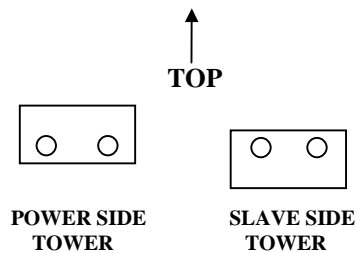

Figure 6 – Carriage Stops
4. Re-install carriage stops and tower brace using four (4) hex head bolts, flat washers, lock washers, and hex nuts. **IMPORTANT!** Carriage stops must be re-installed as shown in **Figure 6**.